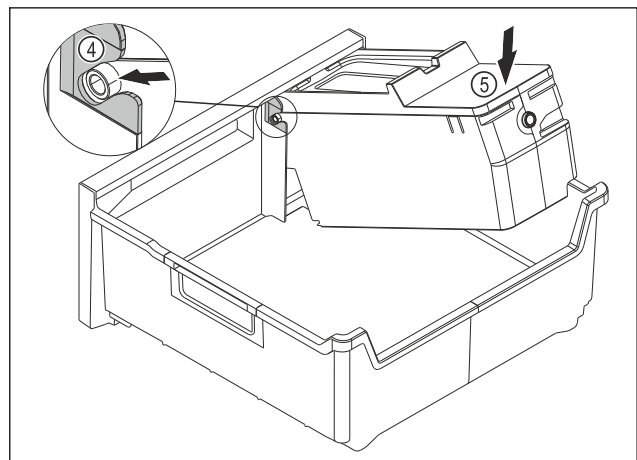

Fig. 138
- ▶ Installing the EasyTwist-Ice body: Insert the axes of the EasyTwist-Ice body into the guides Fig. 138 (4).
- ▶ Press down the EasyTwist-Ice body Fig. 138 (5) at the rear.